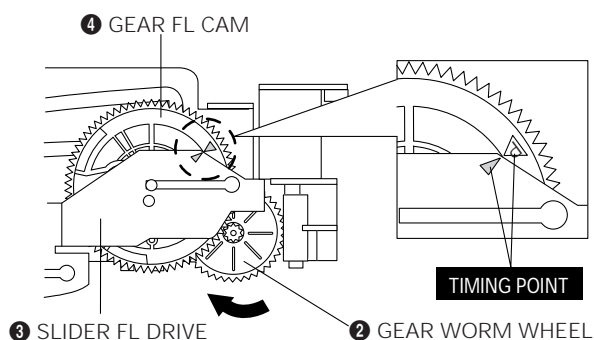

Fig. 2-12
- 3) Turn the gear worm wheel ❷ clockwise so that "Timing Point" of the slider FL drive ❸ and gear FL cam ❹ can be aligned (See Fig. 2-12)